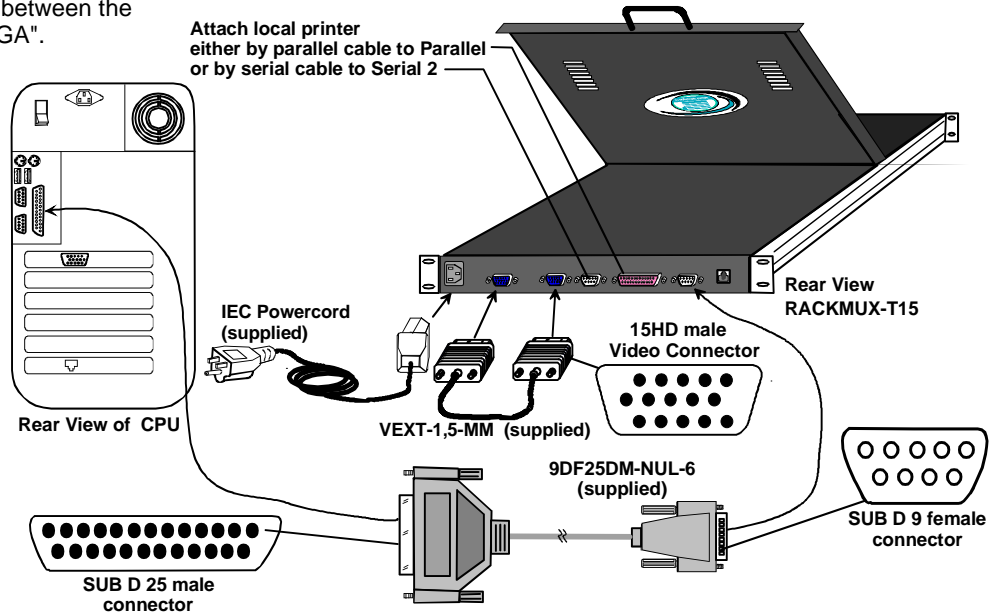

Figure 4 -Connect a CPU to the RACKMUX
1. Connect a female SUB D 9 end of the null modem cable (supplied) to the "SERIAL 1" male SUB D 9 serial interface connector on the RACKMUX (see Fig. 4).
Note: A serial cable (Figure 4) and Ethernet cable cannot both be connected at the same time.